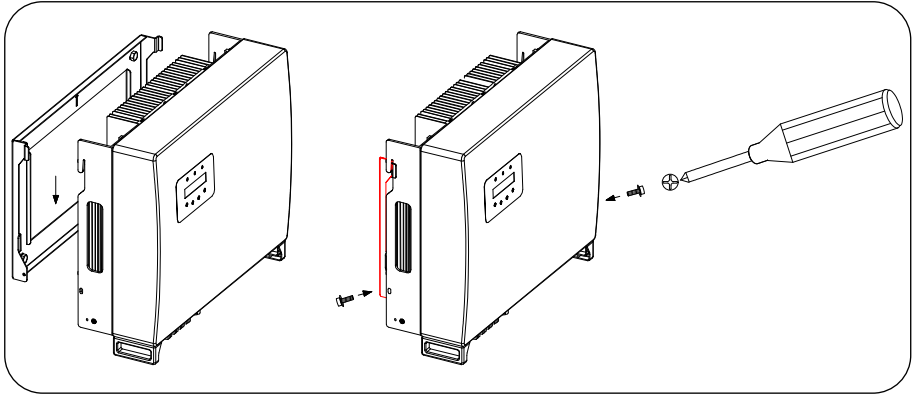

Figura 11 - Wall Mount Bracket
- Lift up the inverter (be careful to avoid body strain) and align the back bracket on the inverter with the convex section of the mounting bracket. Hang the inverter on the mounting bracket and make sure the inverter is secure (see Figura 11).
- After positioning the inverter on the bracket, lock it in the lower part with the screw supplied as shown in Figura 11.